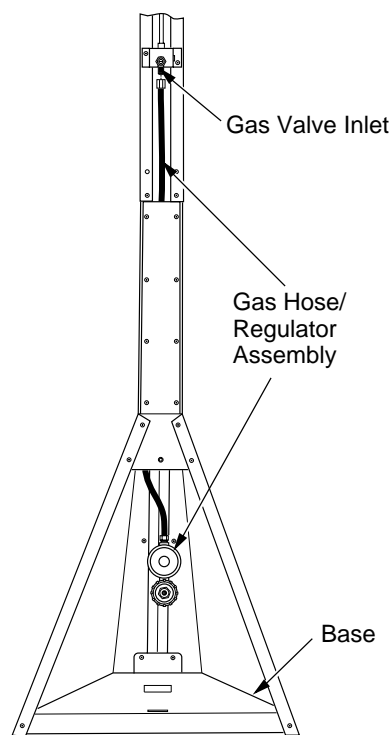

Figure 9 - Installing Hose and Regulator Assembly
9. Using hose and regulator assembly provided, route hose up through mast from inside base assembly. Screw hose fitting onto inlet of valve and tighten with 9/16" open end wrench (see Figure 9).